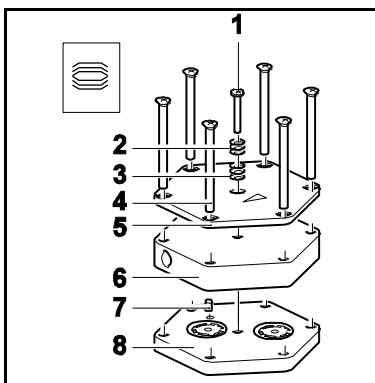

Fig. 10: Refitting pump head
1. On the pneumatic head connection (3), loosen the union nuts (2) by hand. Then slightly loosen the angle-fitting (1) in the pump head (4) by turning it anticlockwise, so that the connecting tube can be pulled out.
2. At both pump heads mark the position of top plate (fig. 10/5), head plate (fig. 10/6), intermediate plate (fig. 10/8) and adapter relatively to each other by a drawing line with a felt-tip pen. This helps to avoid incorrect assembly later.
6. Insert screw(s) (1) with disk springs (2, 3) in the center of the top plate (5). In doing so, make sure that the disk springs are arranged properly (see fig. 10).
7. Screw in the screw/screws (1) in the centre of the pump top plate (5) until it is flush with the top plate (they are flush with the top plate); then screw one final half turn to tighten.